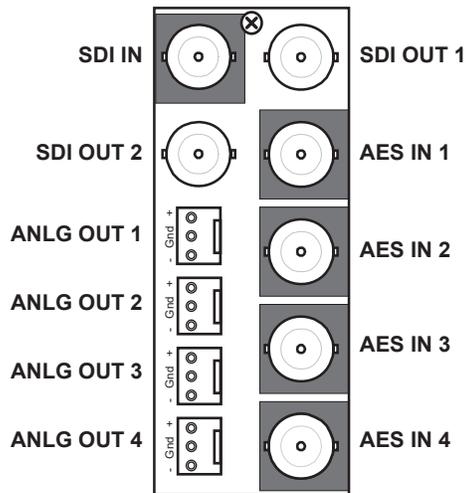
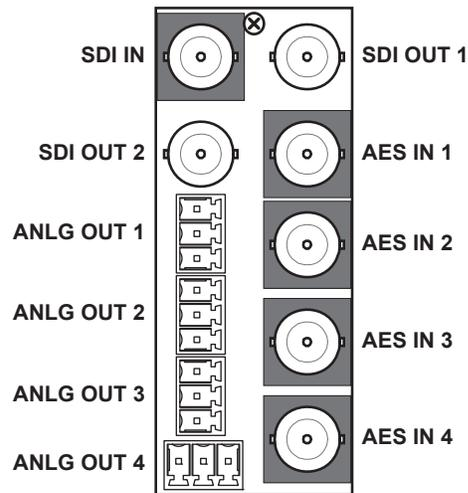

Figure 33 Cabling — 8320AR-058-03
Figure 34 Cabling — 8320AR-058-04
**Figure 33** illustrates the cabling designations for 8320AR-058-03 rear module. **Figure 34** illustrates the cabling designations for the 8320AR-058-04 rear module.